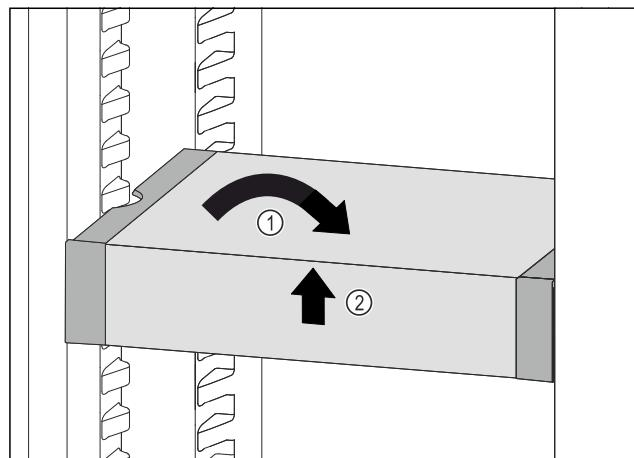

Fig. 128
- Set VarioSafe straight. *Fig. 128 (1)*
- Lift VarioSafe at the front. *Fig. 128 (2)*